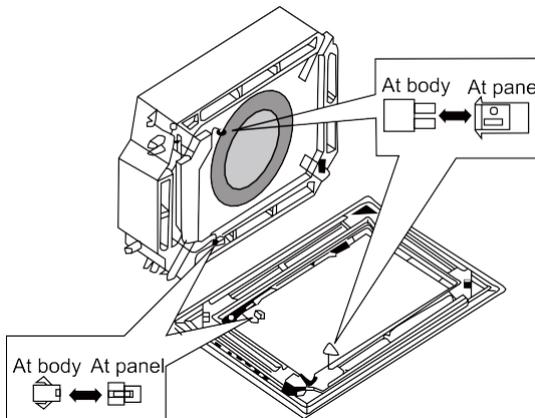

Fig.34
- (4). Wire the swing flap motor as shown in Fig.34 .